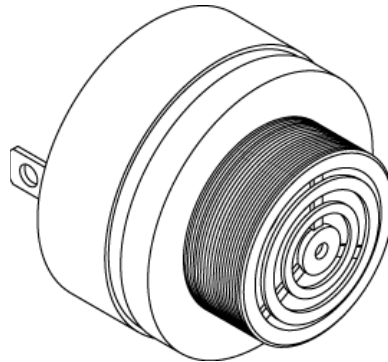

Figure 4 Buzzer
- 3) The buzzer (i.e., horn) provides an audible alert when the ELT is active. See Figure 4 Buzzer.